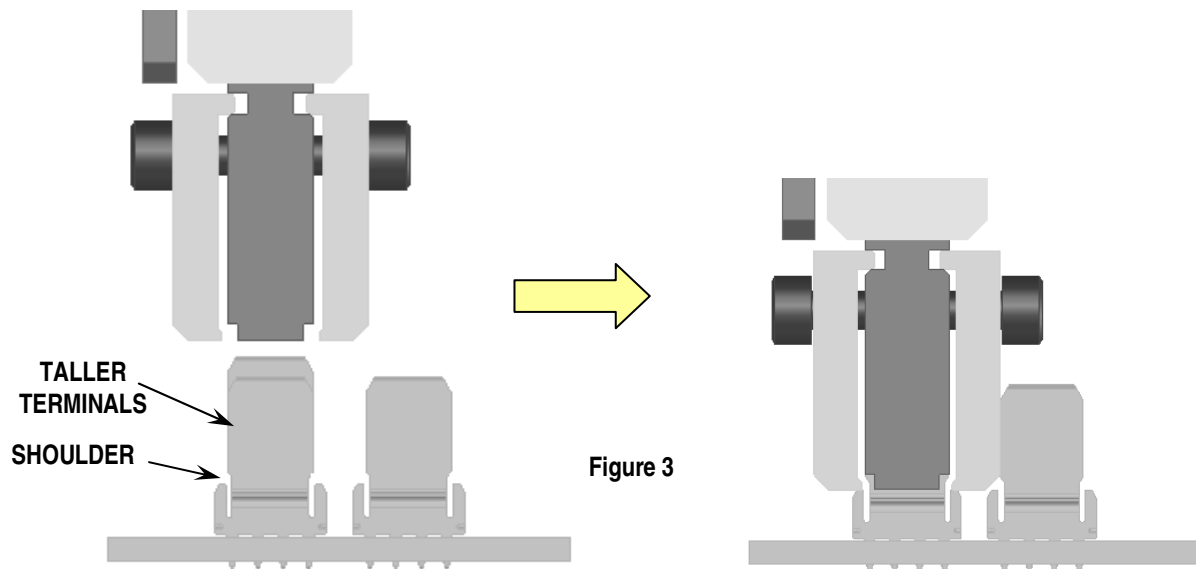

Figure 3
7. Working from the top, move the anvil block and clamp plates down over the power terminals until the clamp plates rest on the shoulder of the terminal. See Figure 3.